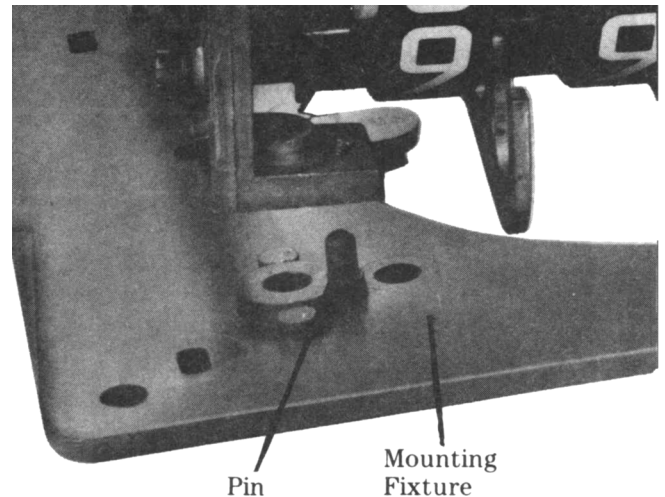

Figure 24. Installation Of Meter Register Onto Mounting Fixture.
- For proper measurement, the meter register must be installed in the TD-42383 mounting fixture, Figure 24, to constrain the frame into the same position that it is when installed in the housing.